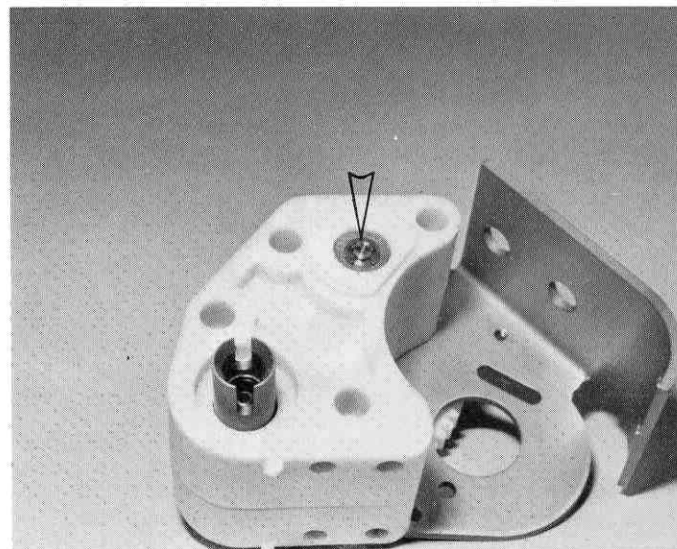

Fig. 91
- Fig. 91** Make sure the "E" clip is seated correctly.